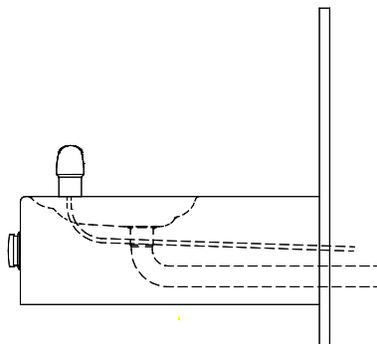

FIG. 5
4. Connect water line from fountain bubbler into freeze resistant box. The connection to the box uses a quick connect water fitting. Position the water line, in the fountain, to drain back into interior mounted box. Any water left standing, in the exterior line, can freeze. See Figure 5.